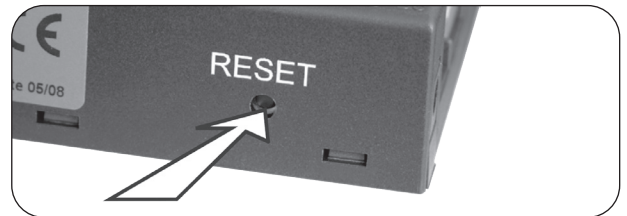

Fig. 3-2 Receiver reset button
1. Press and hold the receiver's reset button (see Fig. 3-2) until you hear two (2) beeps. The first beep is short and the second beep is long. After the second beep, release the reset button.